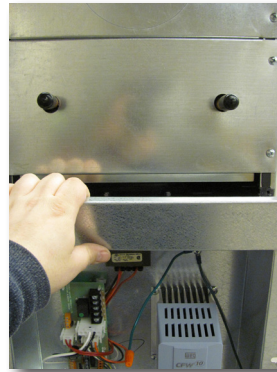

Fig. 12a
12. Now that the motor plug is connected, the control box can be mounted in place of the large access door. (Figs. 12a, 12b)